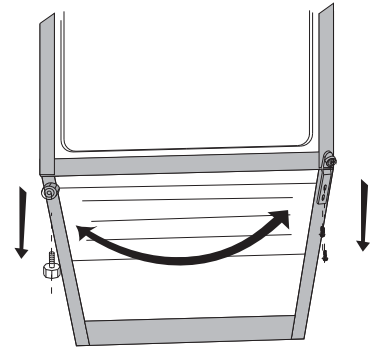

Figure 3
- 3 Remove the door and incline the refrigerator at an angle of 45 degrees. You should rest the refrigerator against something solid so that it will not slip during the door change process. Do not lay the refrigerator flat as this may damage the coolant system. On the underside of the refrigerator, remove the lower hinge bracket on the right side and the leveling foot on the left side and reverse their positions as shown in Figure 3.